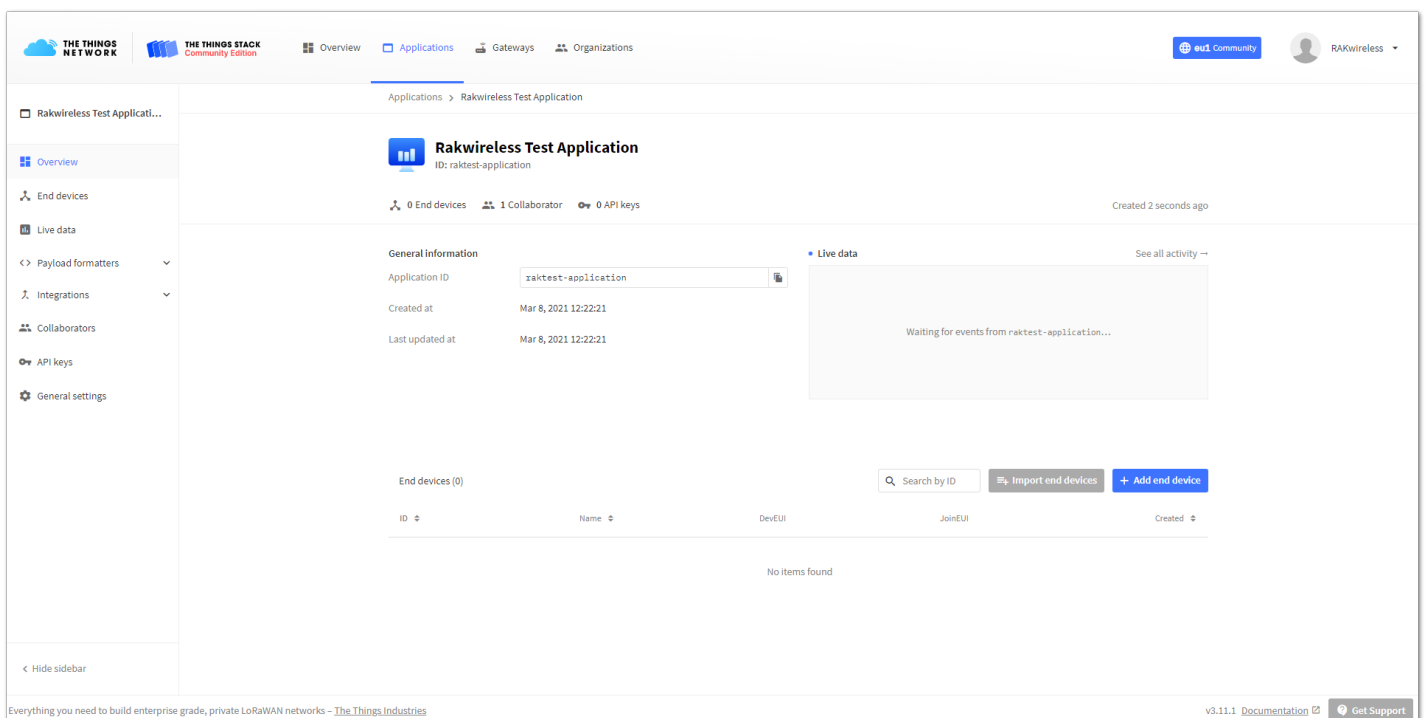

Figure 53: Application Overview
3. After you fill in the information, click **Create application**. If everything is filled in correctly, you will see the same page, as shown in Figure 53.